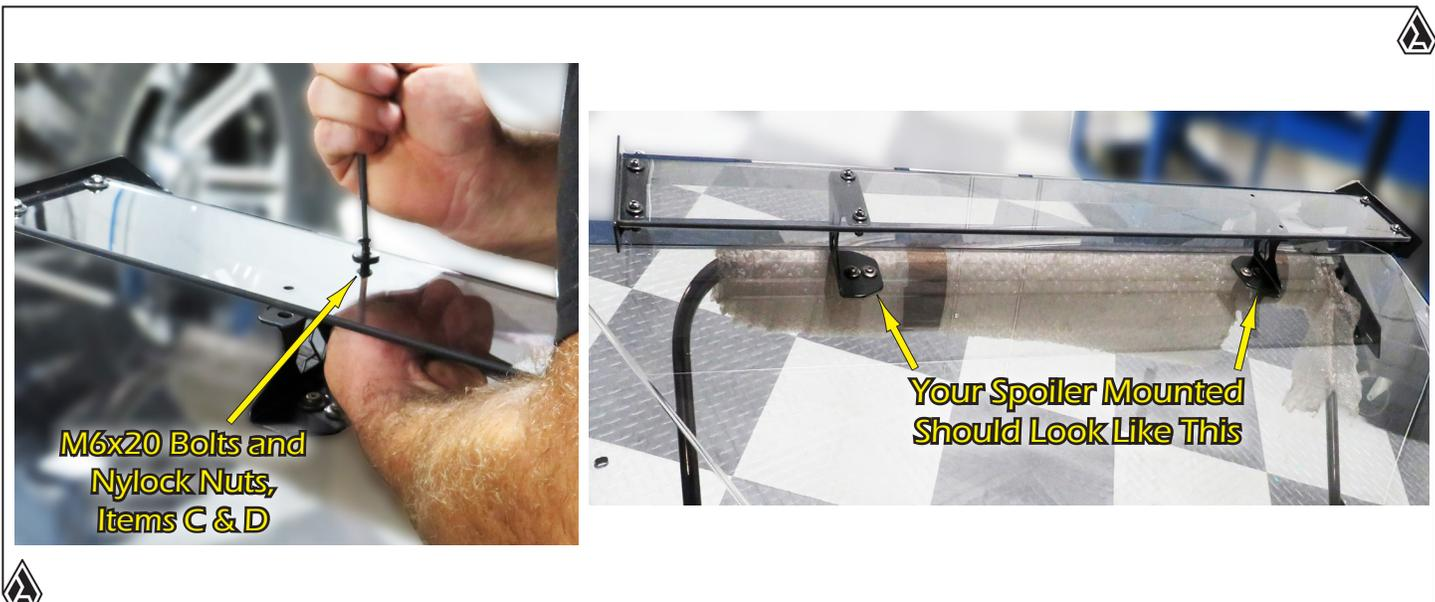

FIG.8
10. Now you can mount the Spoiler onto the roof by also using the **M6x20 bolts and Nylock Nuts, Items C & D** and secure as shown in **Fig.8**.